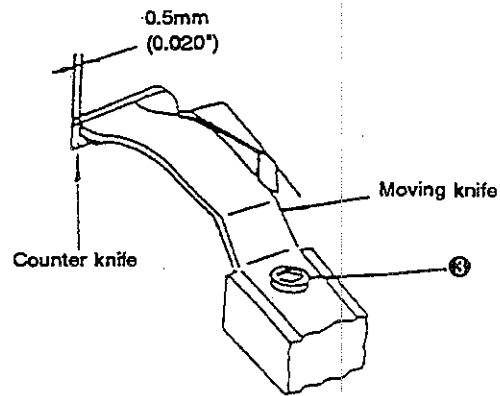
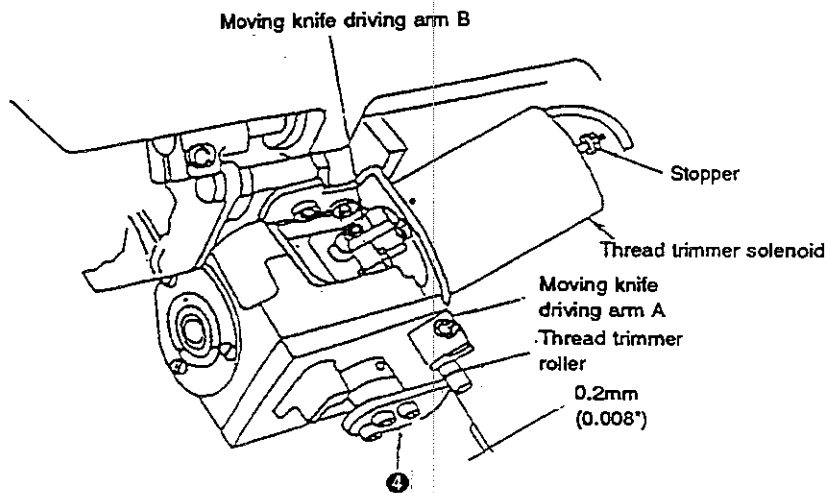

Fig. 4
Fig. 5
<p>3) Knife pressure Adjust, when the moving knife and the counter knife come in contact with each other, the attaching position of the moving knife so that the moving knife starts coming in contact with the counter knife at the position that is 7 to 8 mm (0.276" to 0.315") away from the top end of the knife. (Fig. 3 and Fig. 4) At this time, perform the aforementioned adjustment after loosening attaching screw ⑥ of the moving knife. (Fig. 4)</p>	<ul style="list-style-type: none"> • If the knife pressure is too high: The counter knife blade and the moving knife blade may break. • If the knife pressure is too low: Thread trimming failure may result.
<p>4) Moving knife driving arms A and B</p> <ol style="list-style-type: none"> (1) Adjust so that the top end of the moving knife is spaced 0.5 mm (0.020") from the top end of the counter knife. (Fig. 4 and Fig. 5) (2) Adjust so that a clearance of 0.2 mm (0.008") is provided between the thread trimming cam and the thread trimming cam roller when the thread trimming cam is brought to the highest position of its stroke. (Fig. 5) (2) Put the stopper of the plunger of the thread trimmer solenoid onto the main body of the solenoid. (Fig. 5) (3) Tighten the clamping screws in the moving knife driving arms A and B. (Fig. 5) <p>Item to be confirmed: Turn the handwheel by hand to make the sewing machine perform thread trimming and align the top end of the moving knife with the top end of the counter knife. This is the initial position of the thread trimming mechanism. At this time, confirm that a clearance of 0.05 to 0.15 mm (0.002" to 0.006") is provided between the stopper of the thread trimming solenoid and the main body of the thread trimming solenoid.</p>	<p>If the distance from the top end of the counter knife to the top end of the moving knife is larger than the specified value:</p> <ul style="list-style-type: none"> • The moving knife may overrun after trimming the thread, resulting in clamping failure. <p>If the distance from the top end of the counter knife to the top end of the moving knife is smaller than the specified value:</p> <ul style="list-style-type: none"> • The main body of the solenoid may come in contact with the stopper of the plunger at the time of thread trimming.